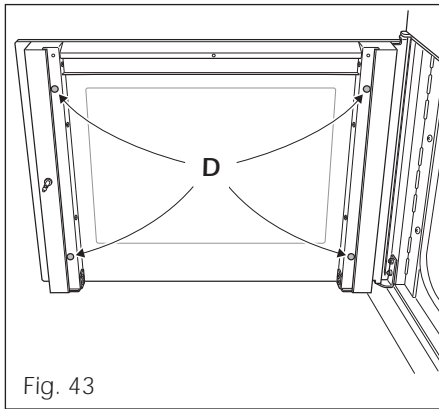

Fig. 43
- Check that the four rubber pads are in place (**D** in Fig. 43).